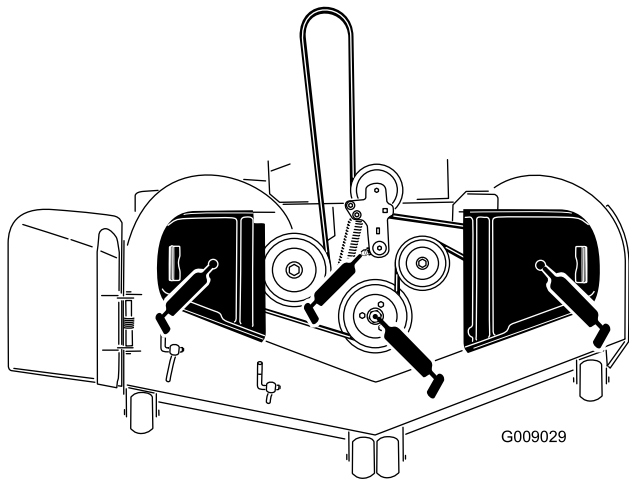

Figure 42
3. Grease the mower deck idler pulley pivot until grease come out the bottom (Figure 42).
4. Grease the 3 spindle bearings until grease comes out the lower seals (Figure 42).
- Grease the drive belt idler arm (Figure 42).